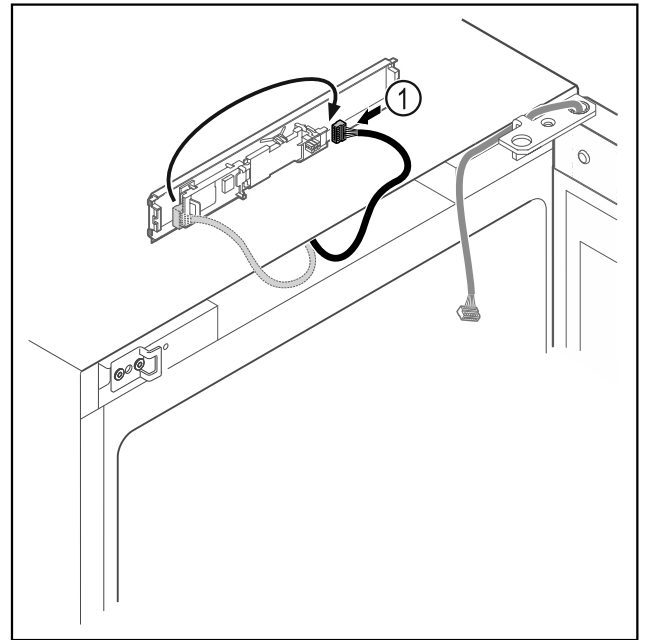

Fig. 15
- ▶ Connect the plug Fig. 15 (1) to the circuit board.